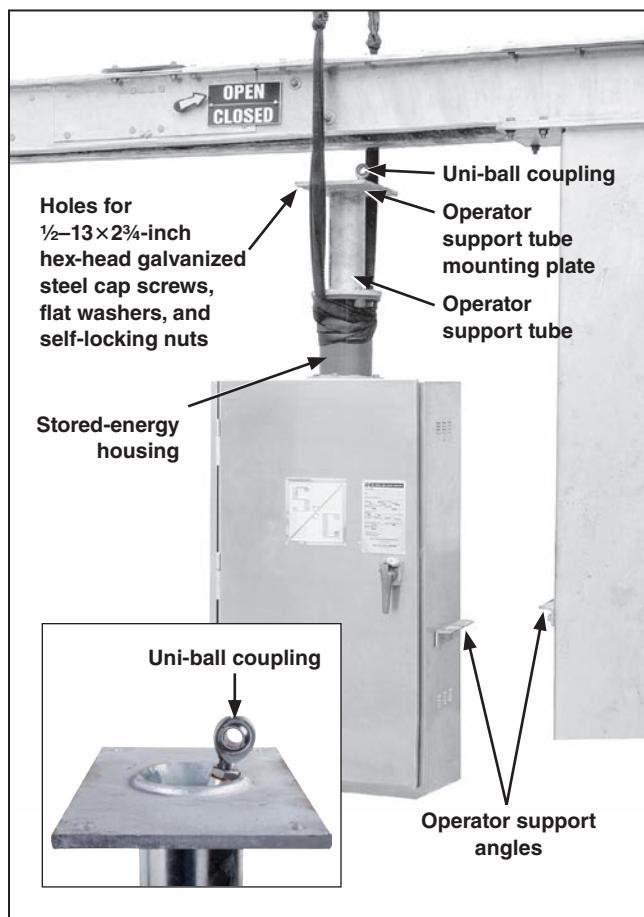

Figure 10. Hoisting the operator into position below the high-speed base using a lifting crane.
STEP 3. Remove the skid and bracing running the length of the operator, stored-energy housing, and operator support tube. See Figure 9. Also remove the protective packing on top of the operator support tube as well as the protective covers on the operator enclosure louvers. See Figure 9 and Figure 10.
STEP 4. Reposition the lifting sling around the front of the stored-energy housing and wrap another lifting sling around the back of the stored-energy housing, as shown in Figure 10. Face the operator door the same direction as the SWITCH POSITION indicator on the high-speed base. Hoist the operator into place.
STEP 6. Attach the operator support angle to the appropriate mounting pedestal using two $\frac{5}{8}$ -11×14-inch hex-head galvanized steel cap screws, four flat washers, and two self-locking hex nuts. Refer to the catalog drawing for exact placement. See Figure 10 on page 15.